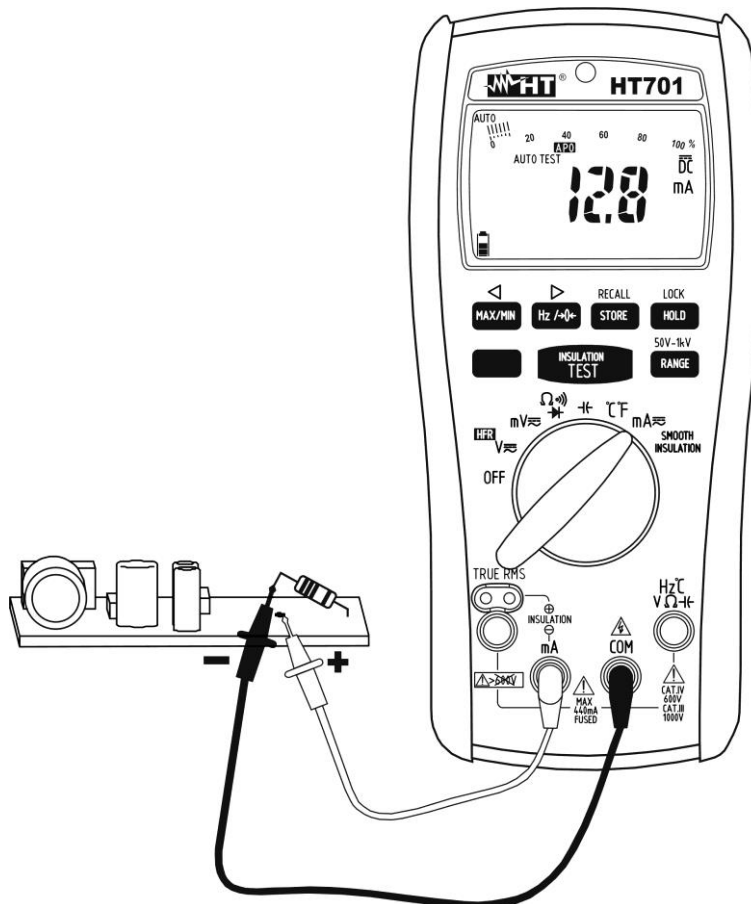

Fig. 4: Use of the instrument for DC current measurement
6. Connect the red lead and the black lead in series to the circuit whose current you want to measure, respecting polarity and current direction (see Fig. 4)
9. When symbol “-” appears on the instrument’s display, it means that current has the opposite direction with respect to the connection of Fig. 4